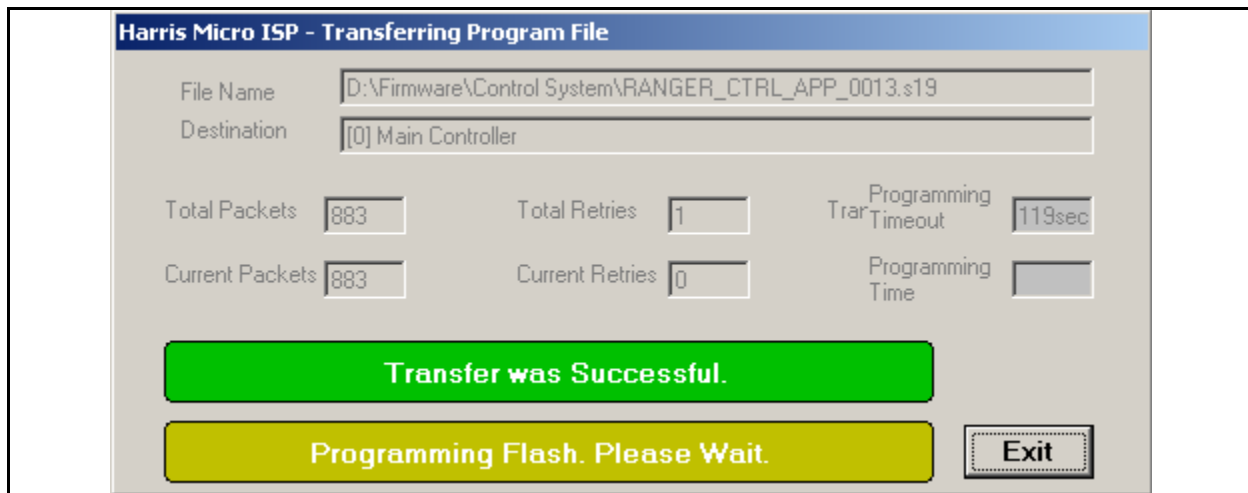

Figure 6-7 Programming Flash
STEP 12 When it has transferred all of the new programming packets it will then take a couple seconds to program the flash chip as shown in Figure 6-7.